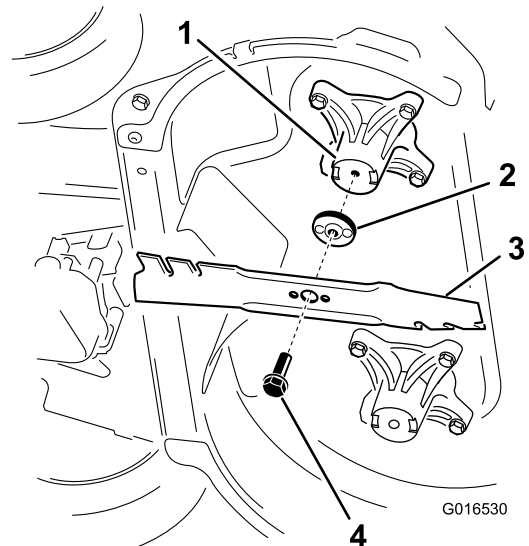

Figure 42
2. Remove each blade as shown in Figure 42.
1. Install the first blade so that it is horizontal, along with all mounting hardware as shown in Figure 42.